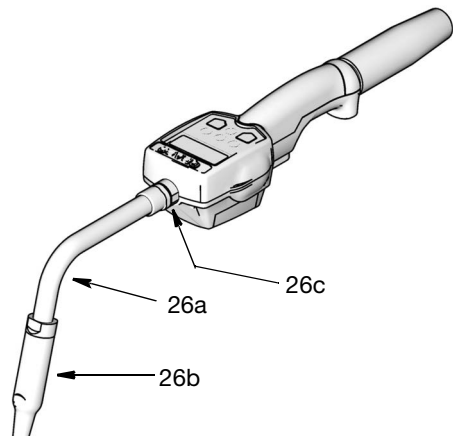

FIG. 7
2. Thread extension into meter outlet at least three full turns to tighten securely. (FIG. 7). (Over torquing may cause casting meter to split)